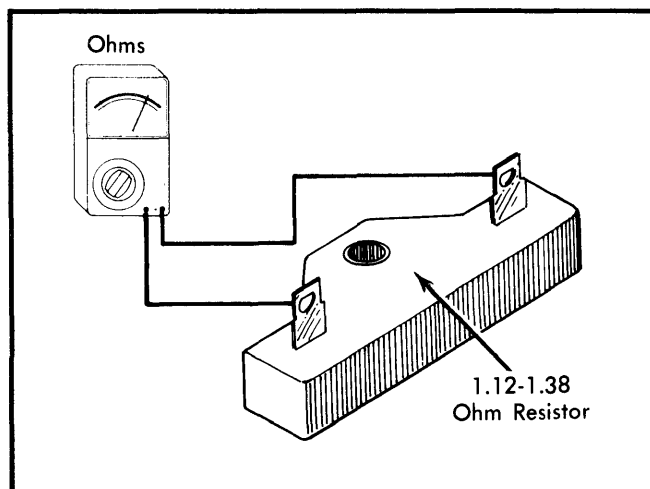

Fig. 12 Checking Ballast Resistor Resistance
3) If reading jumped to battery voltage on positive side of ignition coil, check coil primary and secondary resistance. If coil is bad, replace it. Also check ballast resistor by disconnecting wires from resistor and then taking an ohmmeter reading across its 2 terminals. Resistance should be 1.12-1.38 ohms. If reading is not to specifications, replace ballast resistor. See Fig. 12.
1) Coil is designed to operate with an external ballast resistor. When testing ignition coil for output and resistance, also make ballast resistor tests. See Fig. 12. Inspect coil for external cracks and arcing at same time.